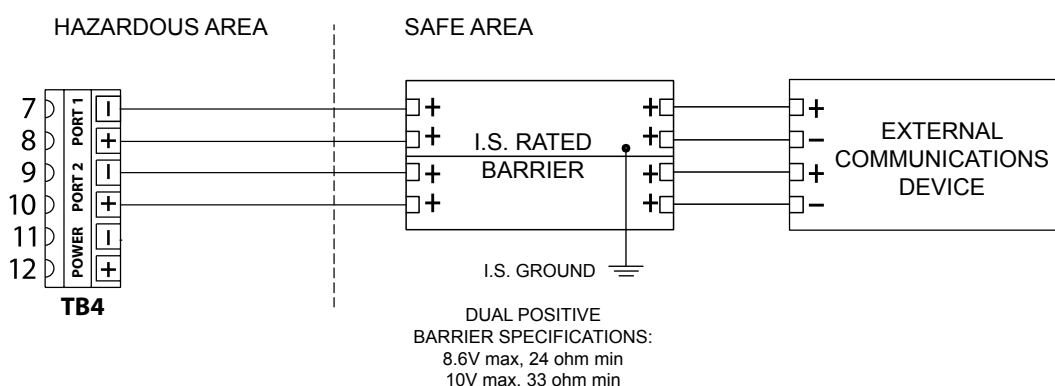

Figure 2.7—RS-485 communications wiring diagram
2. Connect a Modbus communications device to TB4 Port 1 or Port 2 terminals, if desired. See Figure 2.7, page 13.